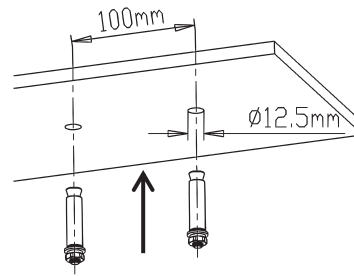

FIG 2.3
2. First drill holes in the ceiling with a distance of 3.9" and a hole diameter of 0.5", and then knock in the expansion screws (FIG 2.3);